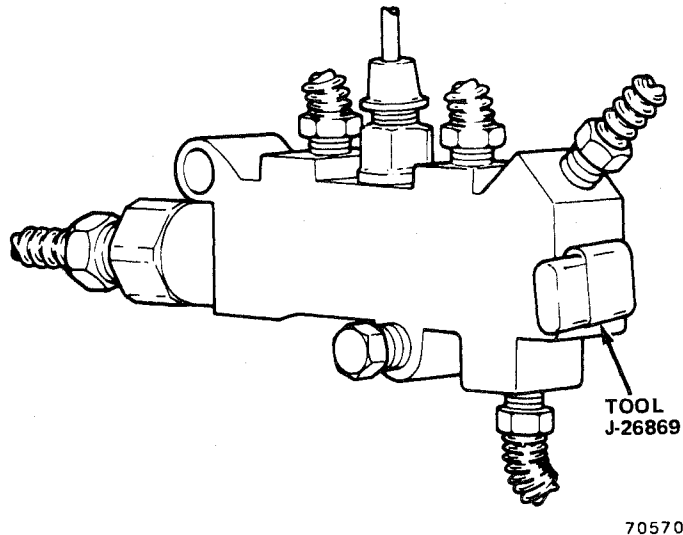

Fig. 2G-15 Metering Valve Tool Installation
- (1) Remove all accumulated dirt from master cylinder and cover.
- (2) Remove master cylinder cover.
- (3) Fill master cylinder if required and install cover.
- (4) On vehicles equipped with type-W combination valve, remove dust cover from metering valve stem and install tool J-26869 on stem to hold valve open (fig. 2G-15).
- (5) On vehicles equipped with type-D combination valve, loosen valve front mounting bolt and insert slotted end of tool J-23709 under bolt. Push metering valve stem inward (using tool) to hold valve open and tighten mounting bolt to secure tool (fig. 2G-16).
- (6) Bleed brake system in following sequence: